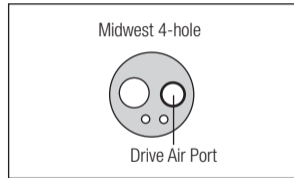

Fig. 12
- 3) Insert the Spray Nozzle into the Drive Air Port of the handpiece. Hold the handpiece and spray for approximately 2-3 seconds. Apply lubricant until it expels from the handpiece head for at least 2 seconds. (Fig. 12)
- 2) Apply 1-2 drops of lubrication oil into the Drive Air Port shown in the Fig. 12.